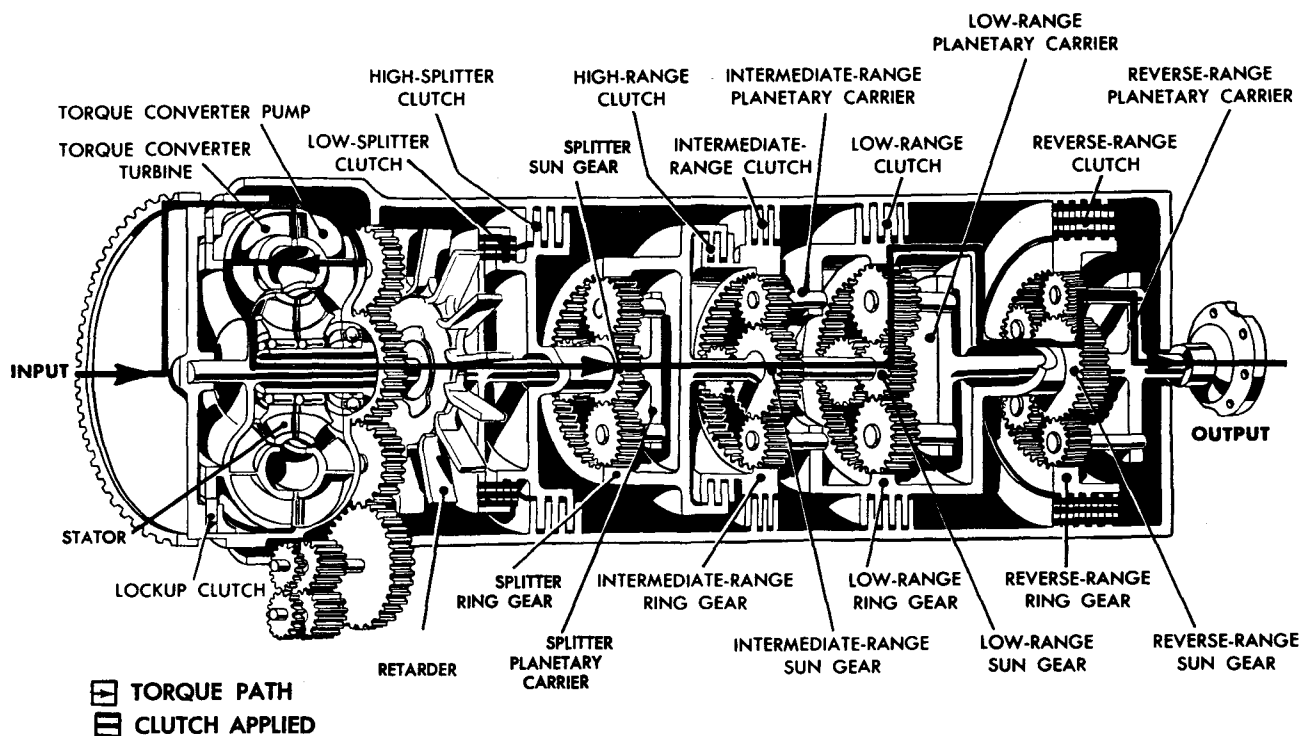

Fig. 2-10. Reverse 1 (5640, 5840 prior to S/N 23851), reverse (all other), low splitter, reverse range, converter-torque path
**i. Reverse 1 (5640, 5840 prior to S/N 23851); Reverse (all other models)—Torque Path (fig. 2-10)**
(1) The manual selector valve is in the reverse 1 (R1) position on 5640 and 5840 transmissions prior to S/N 23851. It is in the reverse (R) position on 5640 and 5840 transmissions beginning with S/N 23851, and on all 5660 and 5860 transmissions. The torque from the engine passes, by hydraulic action, through the converter to the low-splitter clutch and to the splitter planetary carrier. The low-splitter clutch is applied. Refer to b(2), above, for explanation of the flow of power to the low- and intermediate-range sun gears.
(2) In addition to the low-splitter clutch, the reverse-range clutch is applied. This holds the reverse-range ring gear stationary. The reverse-range planetary is coupled with the low-range planetary (compounded) to obtain opposite rotation and the desired ratio. The two planetaries are so interconnected that rotation is reversed in